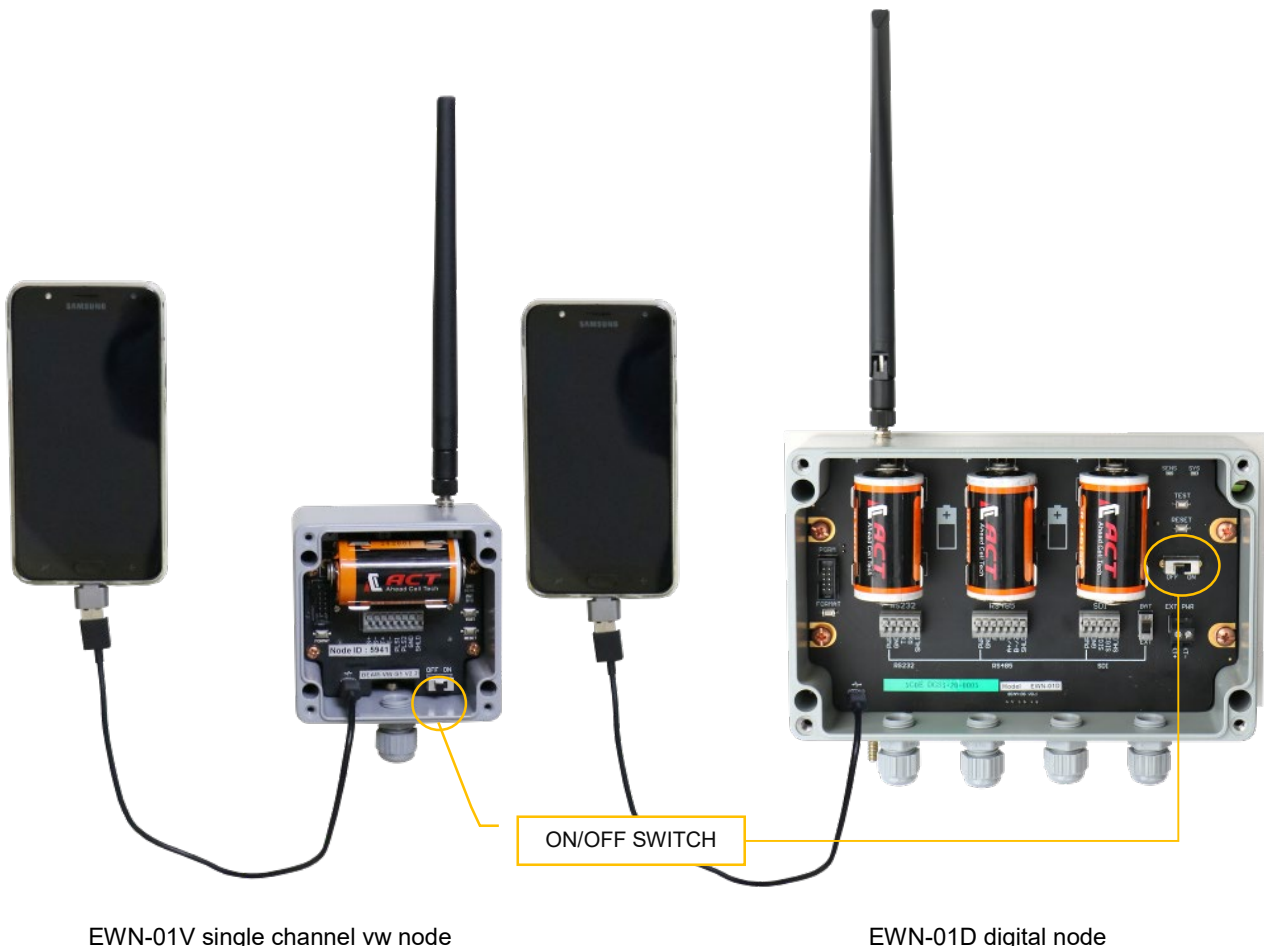

Figure 5-2 Smartphone connected to single and multi channel nodes with USB cable through OTG Adaptor
4. Switch on the node with On-Off switch as shown in figure 5-2 above.